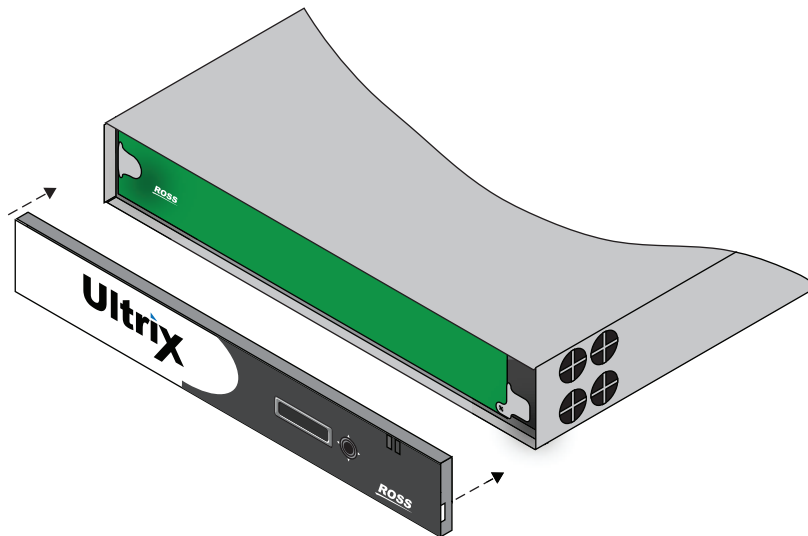

Figure 88 ULTRIX(-NS)-FR2 — Aligning the Door to the Chassis
1. Align the door to the front of the router, ensuring that the door is oriented upright, the corner with the Ultrix logo is in your left hand, and the corner with the Ross logo is in your right hand. (Figure 88)